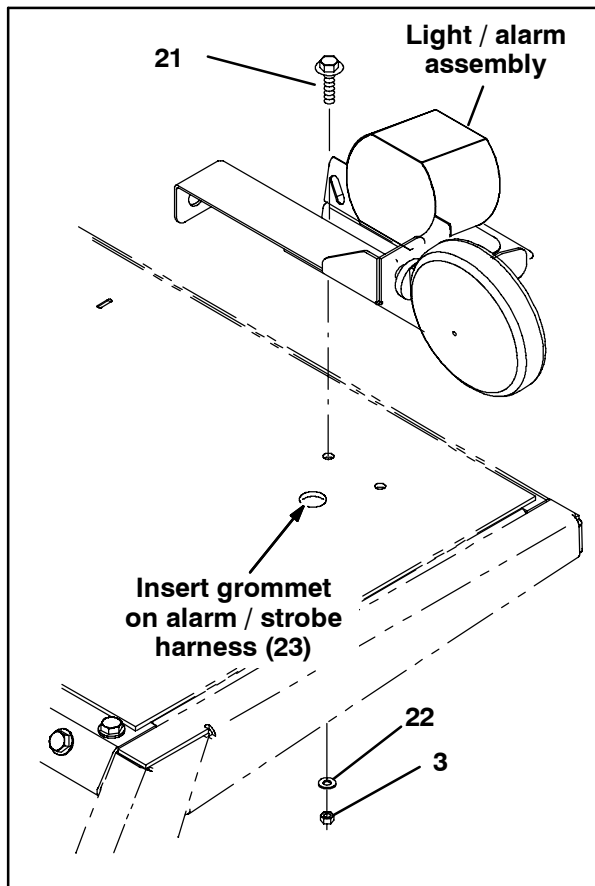

FIG. 2
8. Use two hex screws (21), two flat washers (22), and two hex nuts (3) to install the light / alarm assembly assembled in the previous several steps onto the overhead guard. Refer to Fig. 2.
14. Insert the grommet on the alarm / strobe harness (23) into the hole in the top of the overhead guard. Refer to Fig. 2.